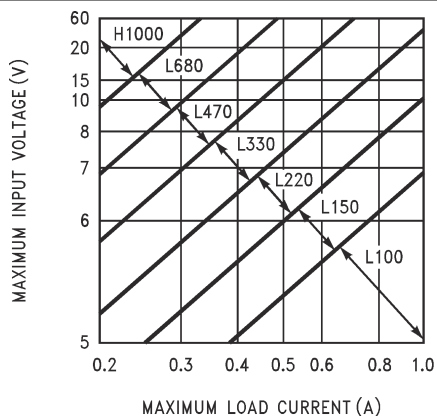
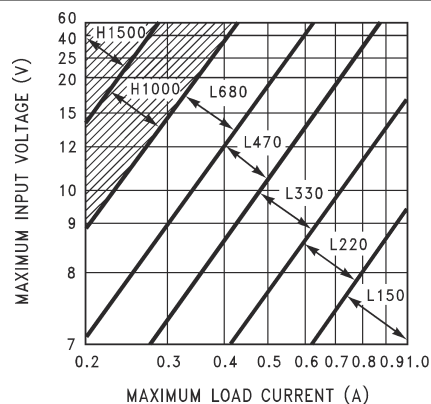
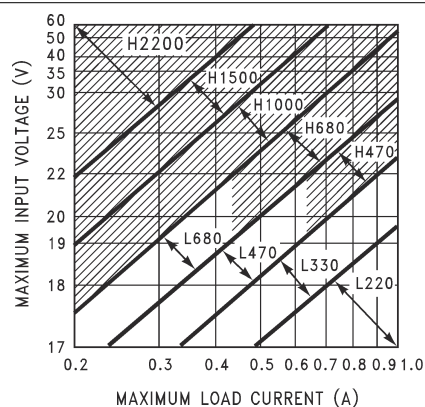

图 9-2. TL2575-33
图 9-3. TL2575-50
图 9-5. TL2575-15
1. Inductor Selection (L1) A. From 图 9-2 through 图 9-5, select the appropriate inductor code based on the intersection of $V_{IN(Max)}$ and $I_{LOAD(Max)}$. B. The inductor chosen should be rated for operation at 52-kHz and have a current rating of at least $1.15 \times I_{LOAD(Max)}$ to allow for the ripple current. The actual peak current in L1 (in normal operation) can be calculated as follows: $I_{L1(pk)} = I_{LOAD(Max)} + (V_{IN} - V_{OUT}) \times t_{on} / 2L1$ Where $t_{on} = V_{OUT} / V_{IN} \times (1 / f_{osc})$	1. Inductor Selection (L1) A. From 图 9-3 (TL2575-05), the intersection of 20-V line and 1-A line gives an inductor code of L330. B. L330 $\rightarrow L1 = 330 \mu\text{H}$ Choose from: 34042 (Schott) PE-52627 (Pulse Engineering) RL1952 (Renco)